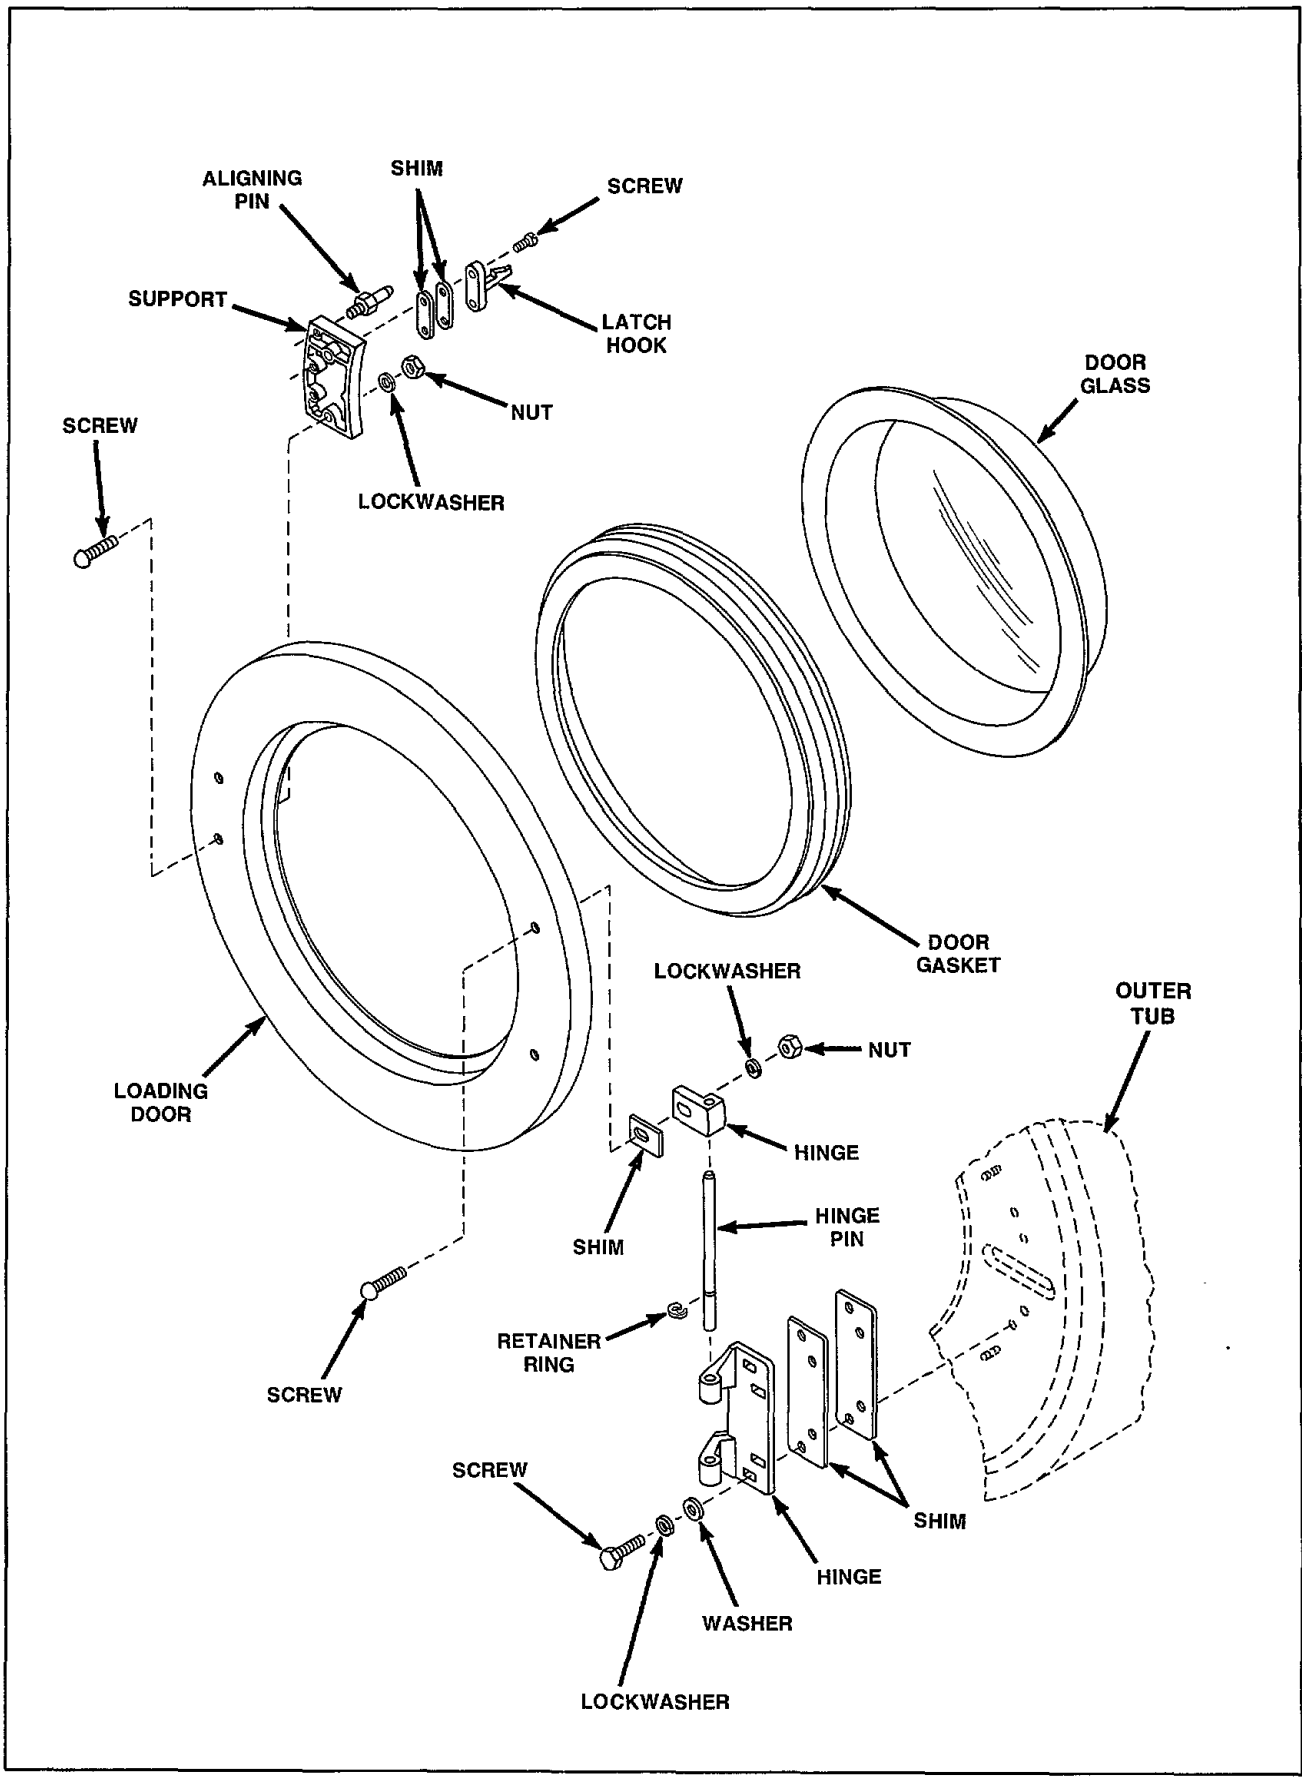

Figure 4
NOTE: Refer to *Figure 4* for loading door assembly sequence.
- b. Peel the door gasket loose from the door ring and remove door glass and gasket, *Figure 4*.